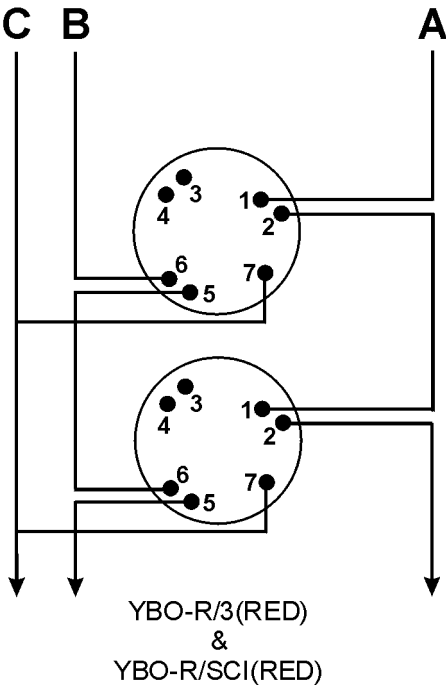

Fig. 4
- ❑ For proper wiring supervision ensure that the cables are wired as shown in Fig 4.
Fix the mounting base to the required surface using appropriate fixings. For correct wiring of the each base type, refer to Fig. 4.